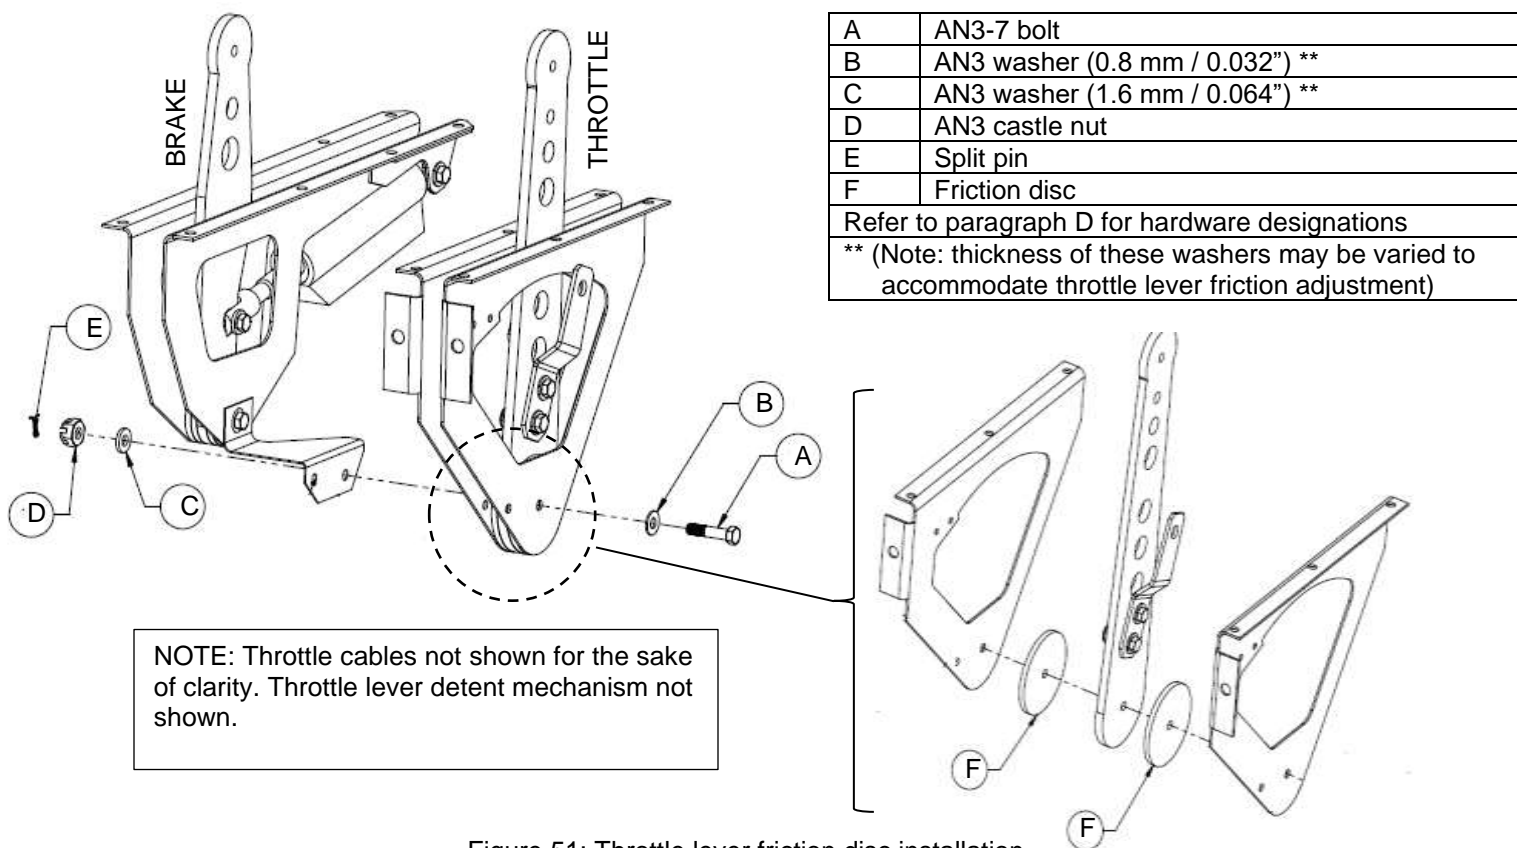

Figure 51: Throttle lever friction disc installation.
The throttle control lever is attached to the throttle lever (in cabin) by a separate Bowden cable. Friction on the throttle lever (in cabin) is affected by two friction discs (refer to Figure 51).
4. Adjust castle nut and thickness of washers to attain required friction (refer to Figure 51).